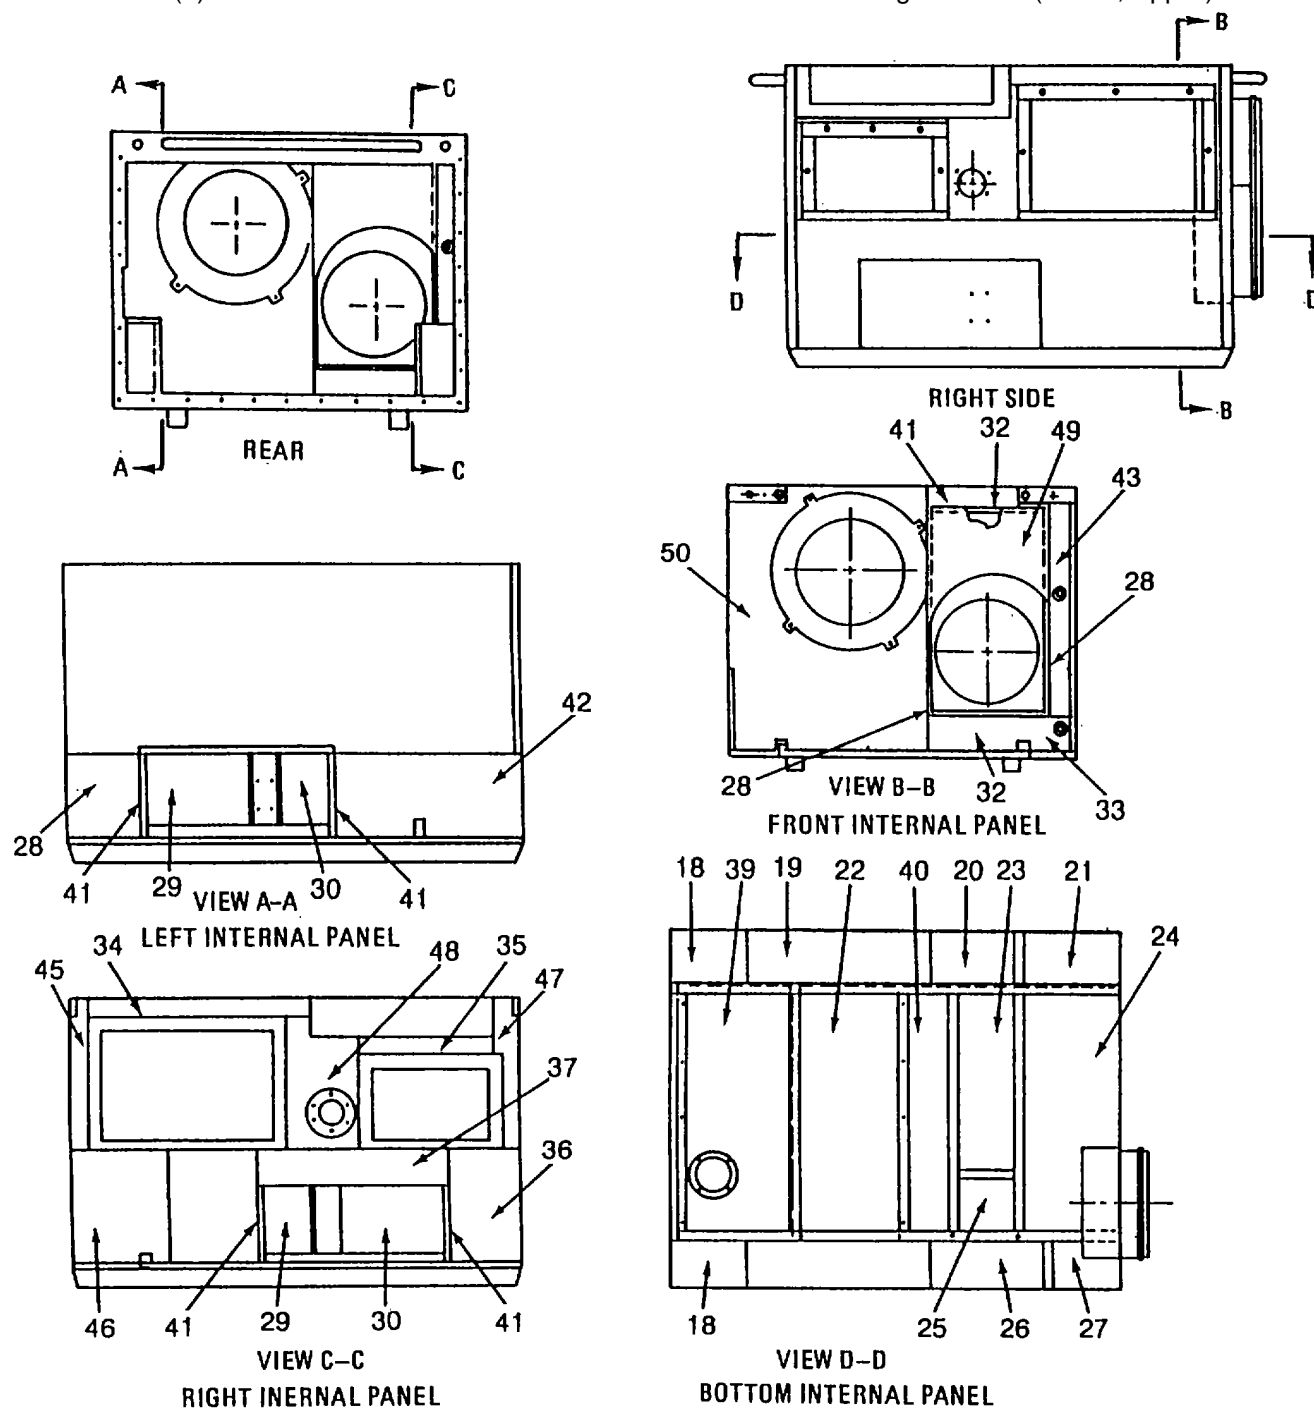

Figure 5-26. Frame Assembly
d. Assembly - continued (Refer to Figure 5-26) (Index numbers refer to App F)
(9) Install insulation, if removed.